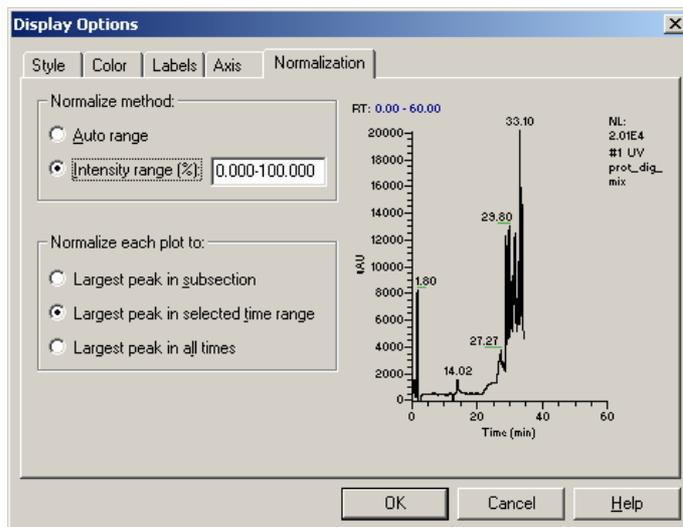
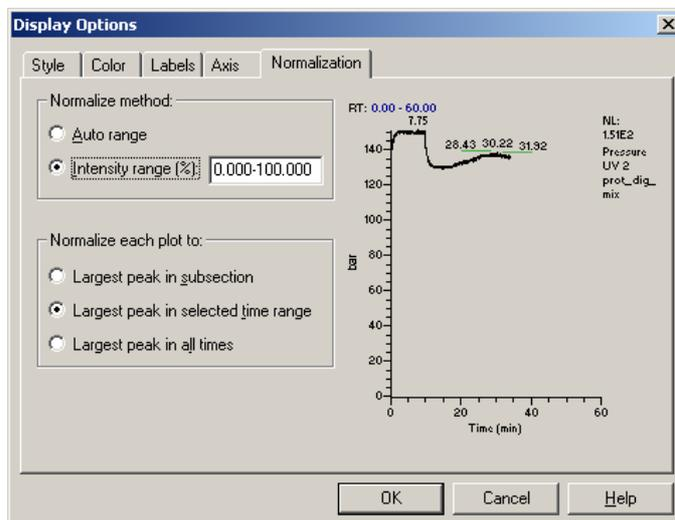
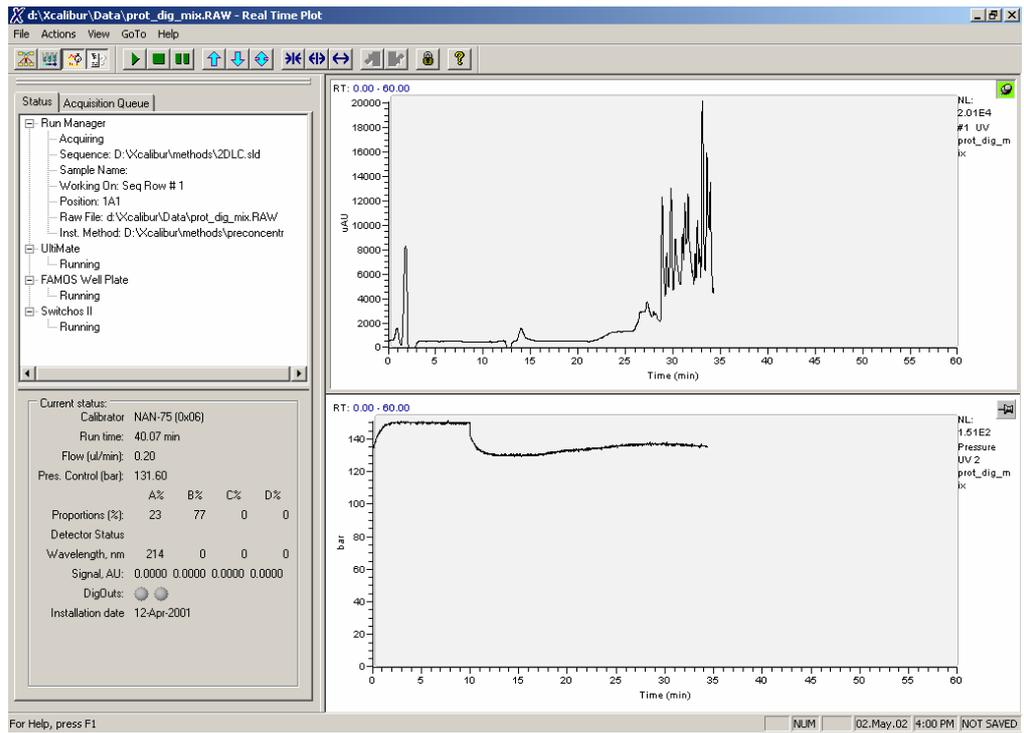

FIGURE 2-47 The Display Options Window (UV Data)
FIGURE 2-48 The Display Options Window (Column Pressure)
FIGURE 2-49 Presenting the UV Data and the Column Pressure
- b) Select the UV Data plot and choose the *Display Options* item from **View** menu in the **Real Time Plot** window, the **Display Options** window will appear (FIGURE 2-47).
FIGURE 2-49 gives a good impression of how the chromatogram and the column pressure display looks with the options presented in FIGURE 2-47 and FIGURE 2-48: